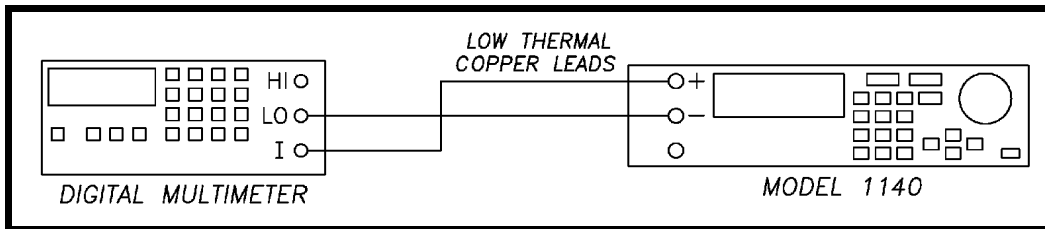

Figure 9-8: Setup for Output-current Test
1. Connect the DMM to the binding posts using copper leads as shown in Figure 9-8.